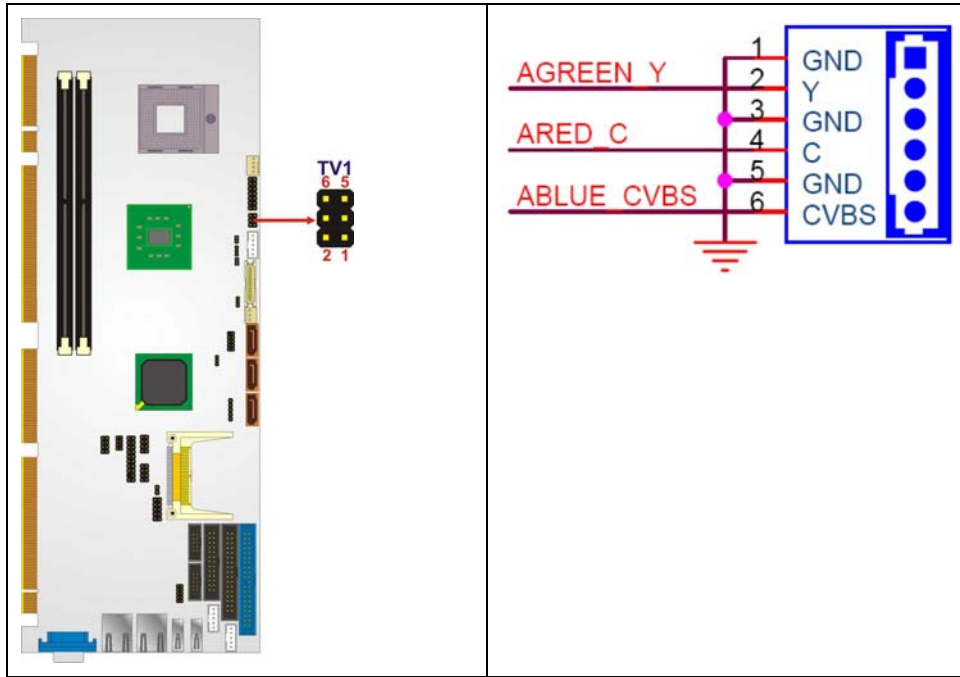

Figure 4-20: TV Connector Pinout Locations
- CN Location:** See Figure 4-20